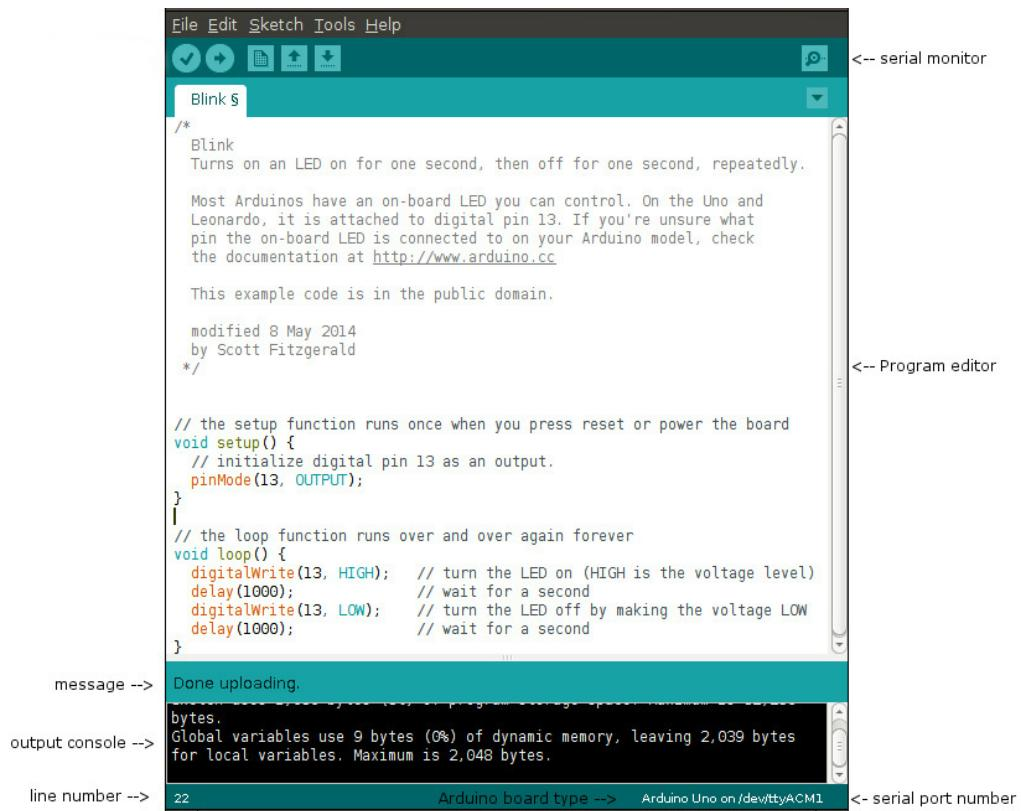

Figure 3.5: Arduino IDE
The Arduino development environment, as shown in Fig. 3.5, consists of a text editor for writing code, a message area, a text console, a toolbar with buttons for common functions, and a series of menus. It connects to the Arduino hardware to upload programs and communicate with them.
6. Serial Monitor: Opens the serial port window - the location of this is shown in the top right-hand corner of Fig. 3.5
Arduino Code 3.1 First 10 lines of the Arduino firmware. Available at Origin/tools/arduino-firmware/arduino-firmware.ino, see Footnote 2 on page 2. By following the steps given in sections 3.1.3 and 3.1.4, open this code in Arduino IDE and upload it to Arduino Uno. Once the upload is successful, you should expect a message in the bottom of Arduino IDE as shown in Fig. 3.5.